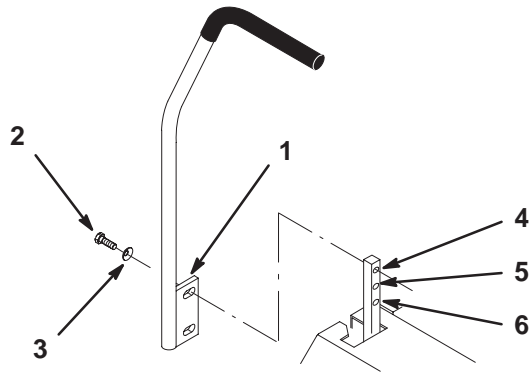

Figure 4
1. Remove the 4 bolts (3/8 x 1 inch) and 4 spring washers (3/8 inch) which attach the motion control levers to the control arm shafts for shipping (Fig. 4).
2. Place the levers (with the mounting plate toward the rear) on the outside of the control arm shaft and secure them with 4 bolts (3/8 x 1 inch) and 4 spring washers (3/8 inch) (Fig. 4).
4. Align the front/rear position of the levers, with each other, in the neutral position. Loosen the hardware and adjust by sliding/tilting the lever(s) forward or backward until they are properly aligned (Fig. 4).